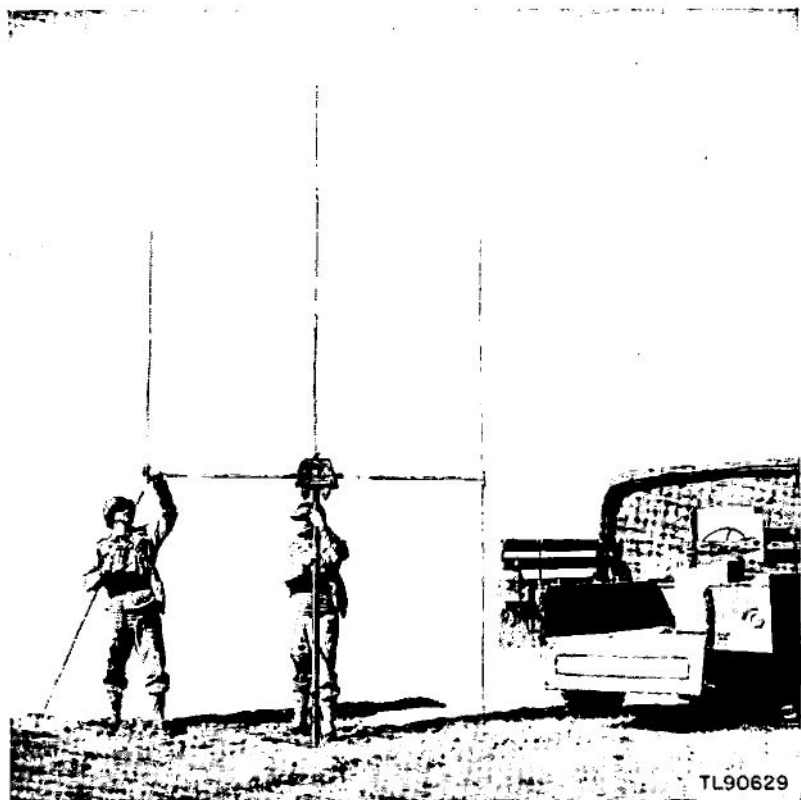

Figure 26. Placing mast sections in crossarms.
b. Assemble the upper half of the vertical dipole by joining Mast Sections MS-51, MS-50, and MS-121. Screw this antenna into the socket on top of the phase load box. When using the beacon with Radio Set SCR-608-(&) on frequencies of 29 to 39 megacycles remove the small Mast Sections MS-121 from the vertical dipole. This tip is used only with Radio Set-508-(&) on frequencies of 20-27.9 megacycles (fig. 26).
c. Assemble the antenna array by first joining four Mast Sections MS-50 with four Mast Sections MS-120. Screw the four resulting lengths into the sockets in the outer ends of each crossarm (fig. 26).